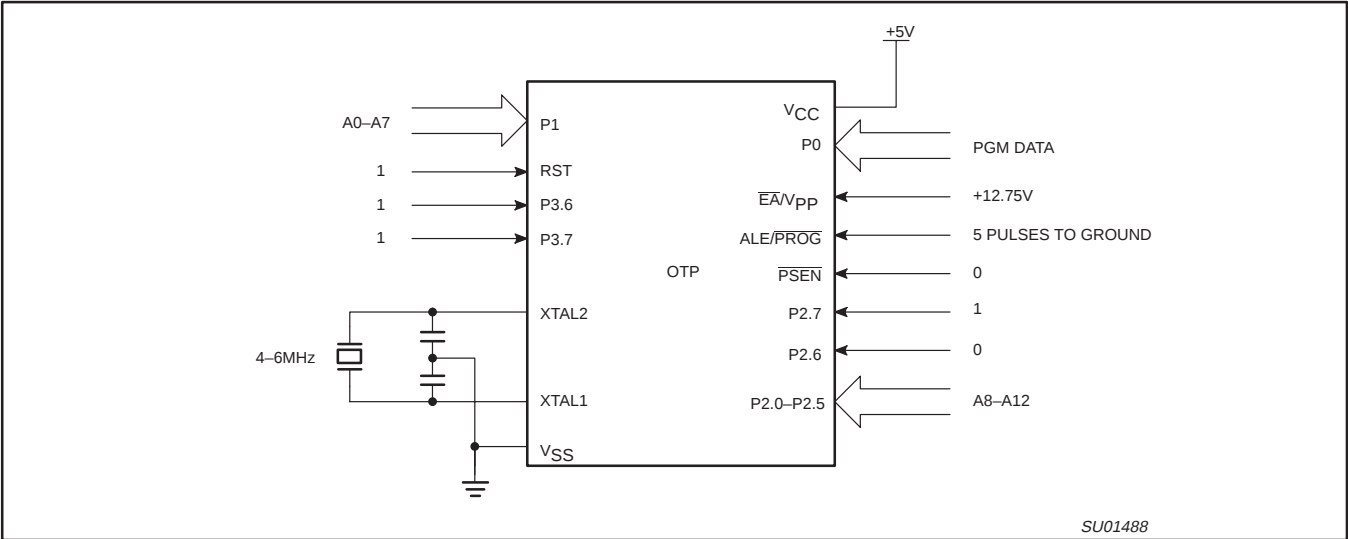
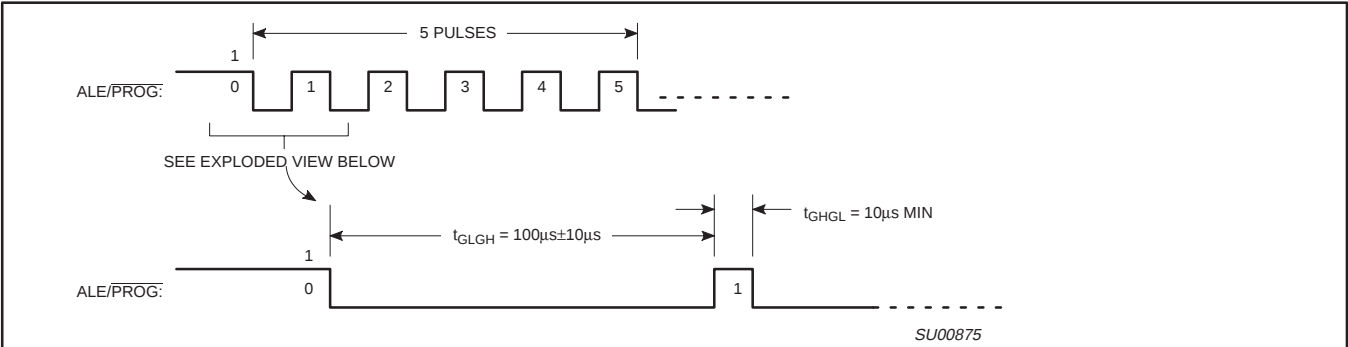
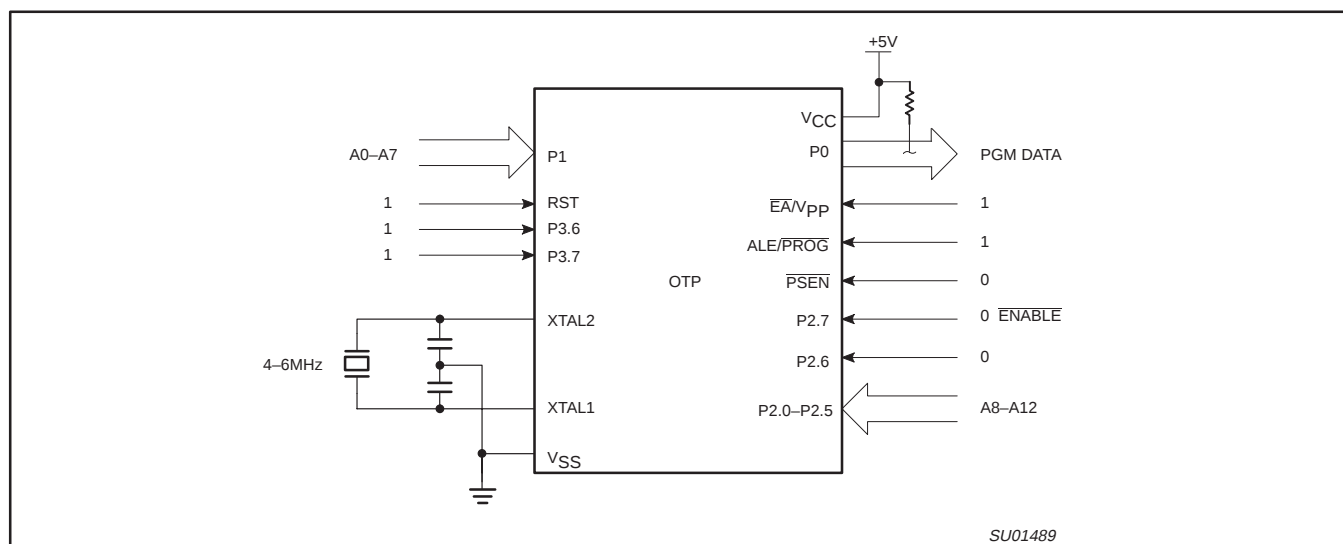

Figure 40. Programming Configuration
Figure 41. PROG Waveform
Figure 42. Program Verification
Table 8 shows the logic levels for reading the signature byte, and for programming the program memory, the encryption table, and the security bits. The circuit configuration and waveforms for quick-pulse programming are shown in Figures 40 and 41. Figure 42 shows the circuit configuration for normal program memory verification.
The setup for microcontroller quick-pulse programming is shown in Figure 40. Note that the device is running with a 4 to 6 MHz oscillator. The reason the oscillator needs to be running is that the device is executing internal address and program data transfers.
The address of the EPROM location to be programmed is applied to ports 1 and 2, as shown in Figure 40. The code byte to be programmed into that location is applied to port 0. RST, $\overline{PSEN}$ and pins of ports 2 and 3 specified in Table 8 are held at the 'Program Code Data' levels indicated in Table 8. The ALE/PROG is pulsed low 5 times as shown in Figure 41.
If security bits 2 and 3 have not been programmed, the on-chip program memory can be read out for program verification. The address of the program memory locations to be read is applied to ports 1 and 2 as shown in Figure 42. The other pins are held at the 'Verify Code Data' levels indicated in Table 8. The contents of the address location will be emitted on port 0. External pull-ups are required on port 0 for this operation.
- * FOR PROGRAMMING CONFIGURATION SEE FIGURE 40.
FOR VERIFICATION CONDITIONS SEE FIGURE 42.